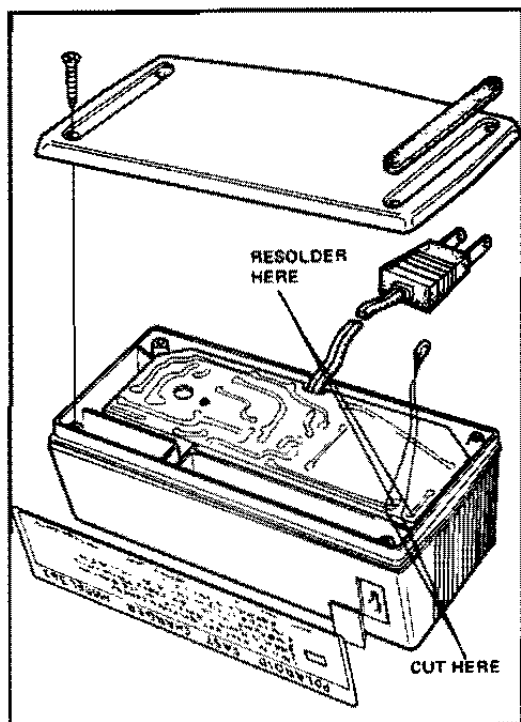

FIG. 4-1 REPLACING THE CHARGER LAMP
- a. Peel the two foam rubber pads off the bottom of the charger (Figure 4-1).
- d. Cut the leads at the points shown in Figure 4-1.
- a. Solder the leads of a new lamp to the solder connections shown in Figure 4-1.